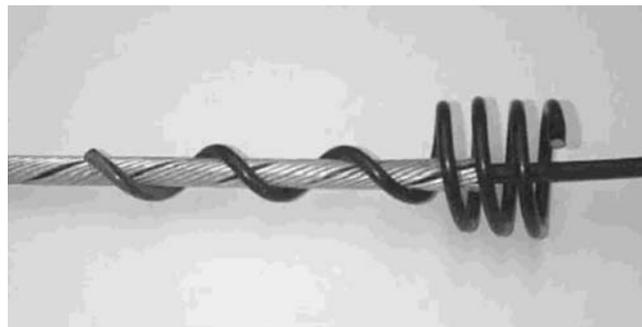

Figure 11 – ADSS-CORONA Coil
11.1 ADSS-CORONA Coils (Figure 11) are used to reduce the electrical stress at the ends of metallic dead-end grips and structural reinforcement rods on cables installed in high-voltage electrical fields. The corona coils are designed to suppress electrical arcing that may occur at the ends of the metal rods and damage the outer jacket of *PowerGuide* cables. Corona coils should be used on all installations where the electric field space potential exceeds 12 kV (all installations that require *PowerGuide* TR cable).